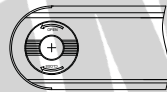

Fig.3
- Install battery cover, screw on it clockwise (Fig.3)